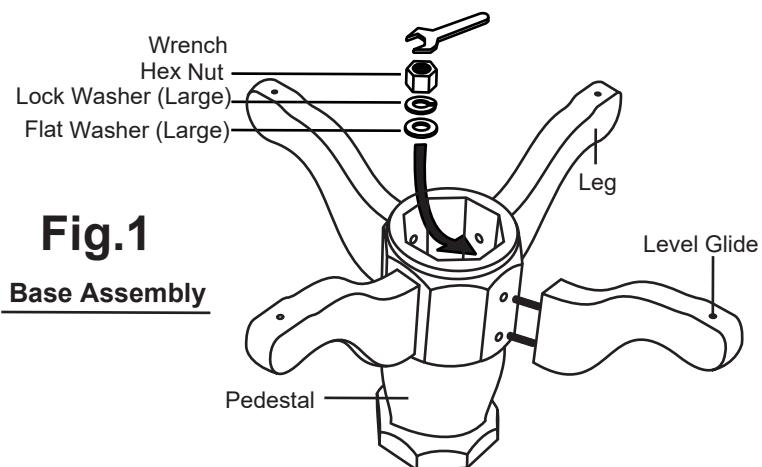

Fig.1
1.1- Turn the pedestal upside down. Attach legs by inserting hanger bolts through pre-drilled holes on the combination pedestal. shown in Fig.1